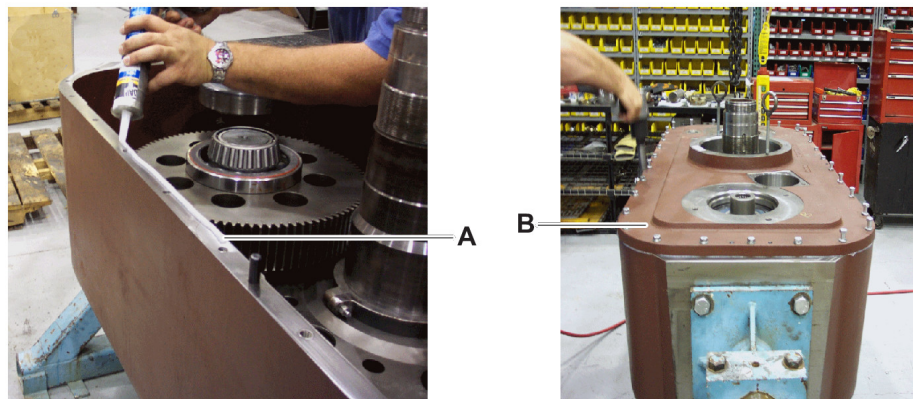

Figure 8
14. Use applicable lifting eye bolts, chains, and hoist to put the cover (Figure 8, item B) carefully on the housing.